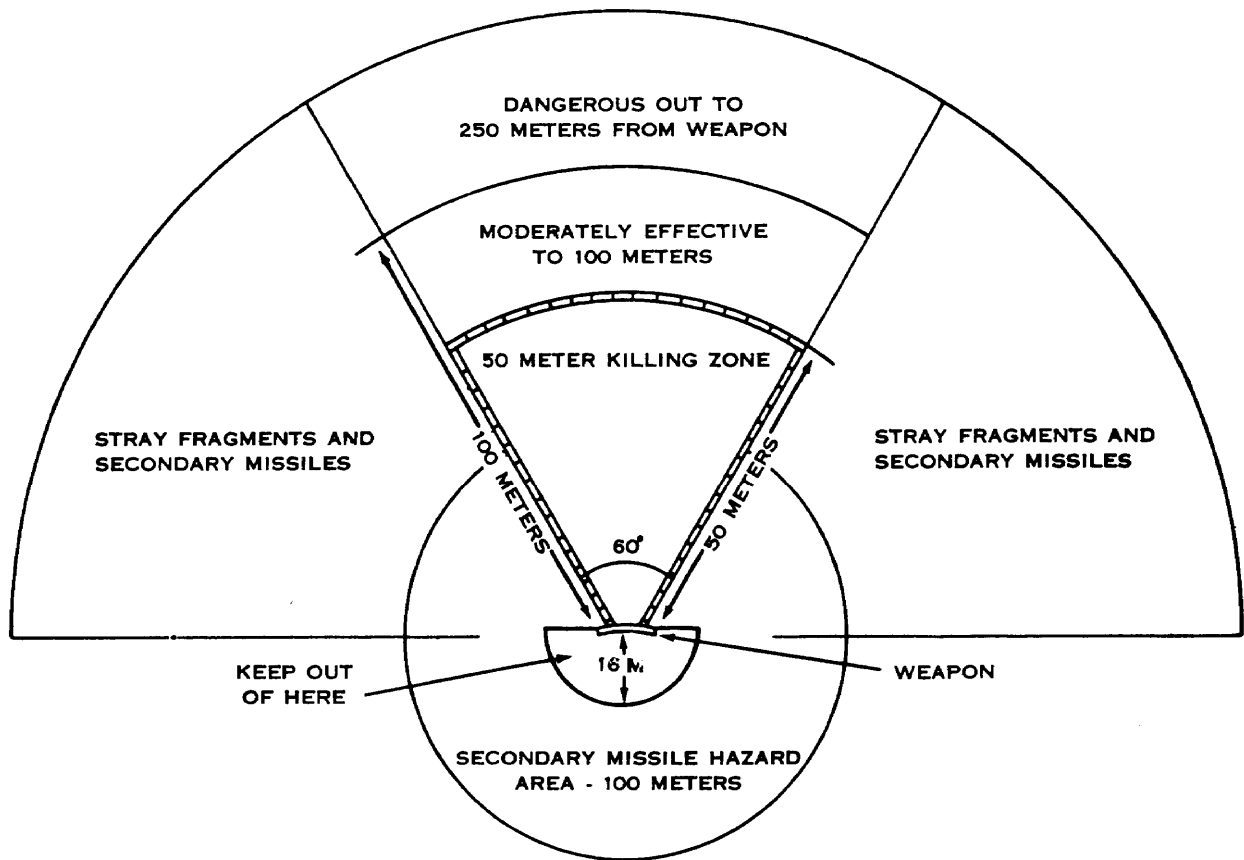

Figure 4. Danger radius and effects of the M18A1.
When detonated, the M18A1 mine will deliver spherical steel fragments over a 60° fan-shaped pattern that is 2 meters high and 50 meters wide at a range of 50 meters (fig. 4). These fragments are moderately effective up to a range of 100 meters and can travel up to 250 meters forward of the mine. The optimum effective range (the range at which the
a. Danger From Fragments (fig. 4). The danger area consists of a 180° fan with a radius of 250 meters centered in the direction of aim.
b. Danger Area of Backblast and Secondary Missiles (figs. 4 and 24). Within an area of 16 meters to the rear and sides of the mine, backblast can cause injury by concussion (ruptured eardrums) and create a secondary missile hazard.
- (1) Friendly troops are prohibited to the rear and sides of the mine within a radius of 16 meters.
- (2) The minimum safe operating distance from the mine is 16 meters. At this distance, and regardless of how the mine is employed, the operator should be in a foxhole, behind cover, or lying prone in a depression. The operator and all friendly troops within 100 meters of the mine must take cover to prevent being injured by flying secondary objects such as sticks, stones, and pebbles.